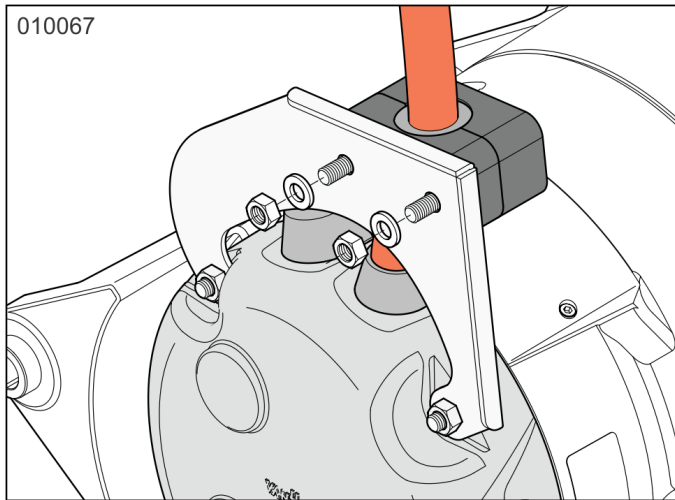

Figure 4
- 5) At the upper alternator only: remove the nuts securing the positive cable clamp to the cable support (Figure 4).